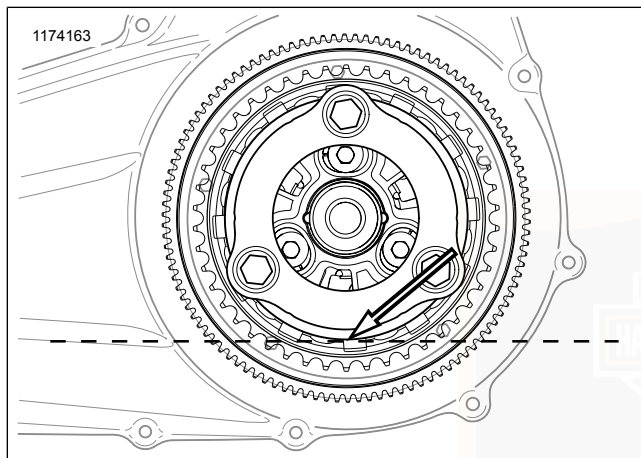

Figure 61. Primary Chaincase Lubricant Level
- b. See Figure 61. Proper level is approximately at bottom of pressure plate OD.